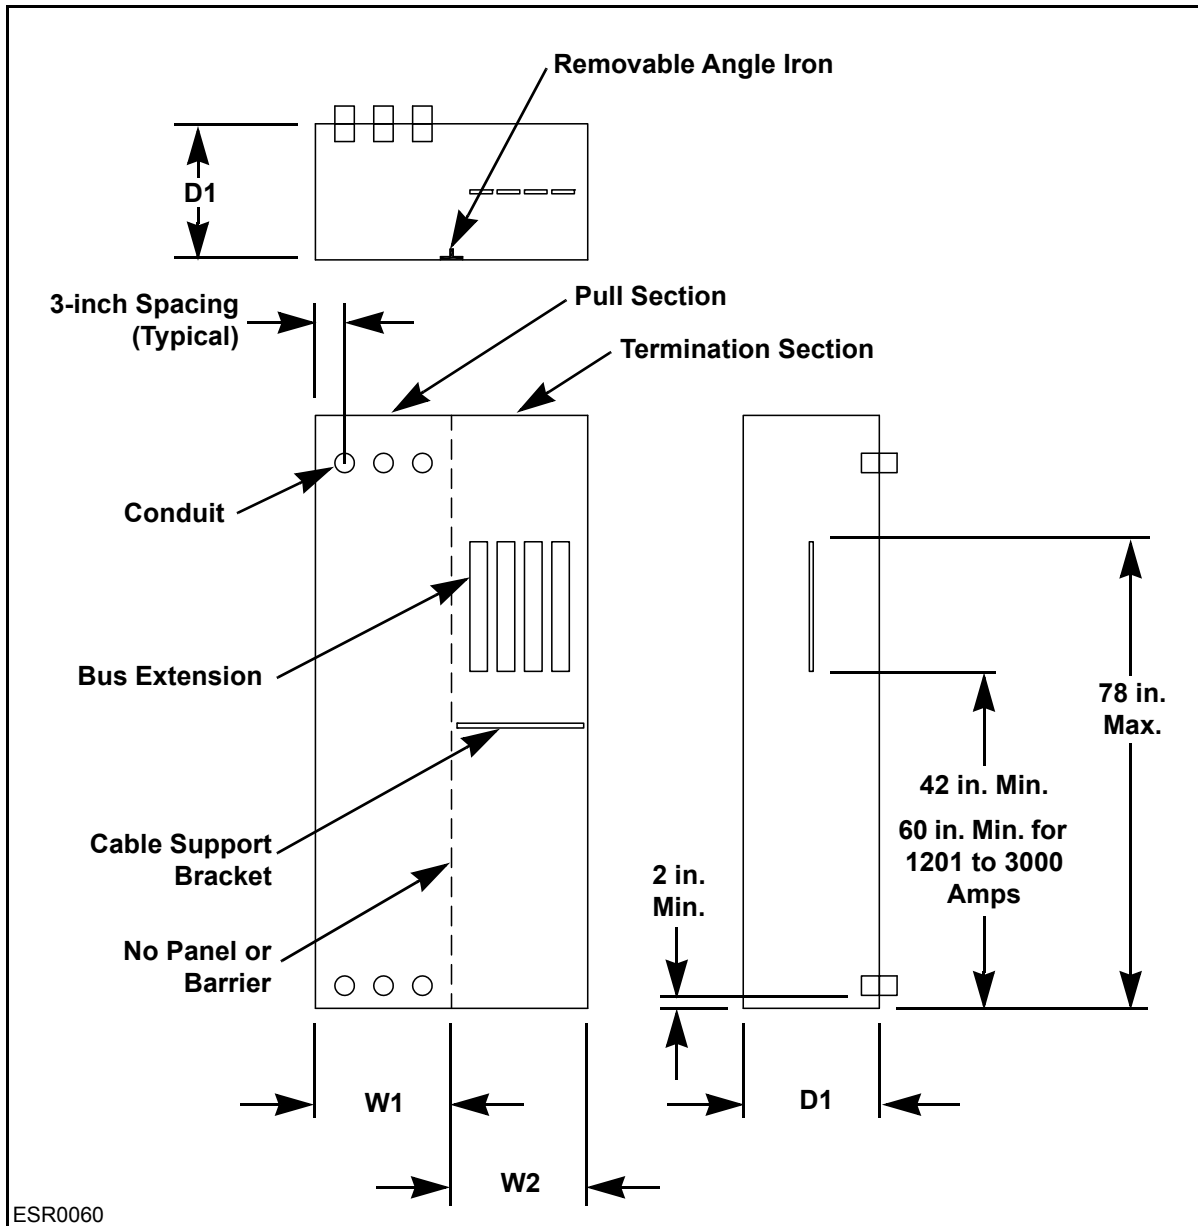
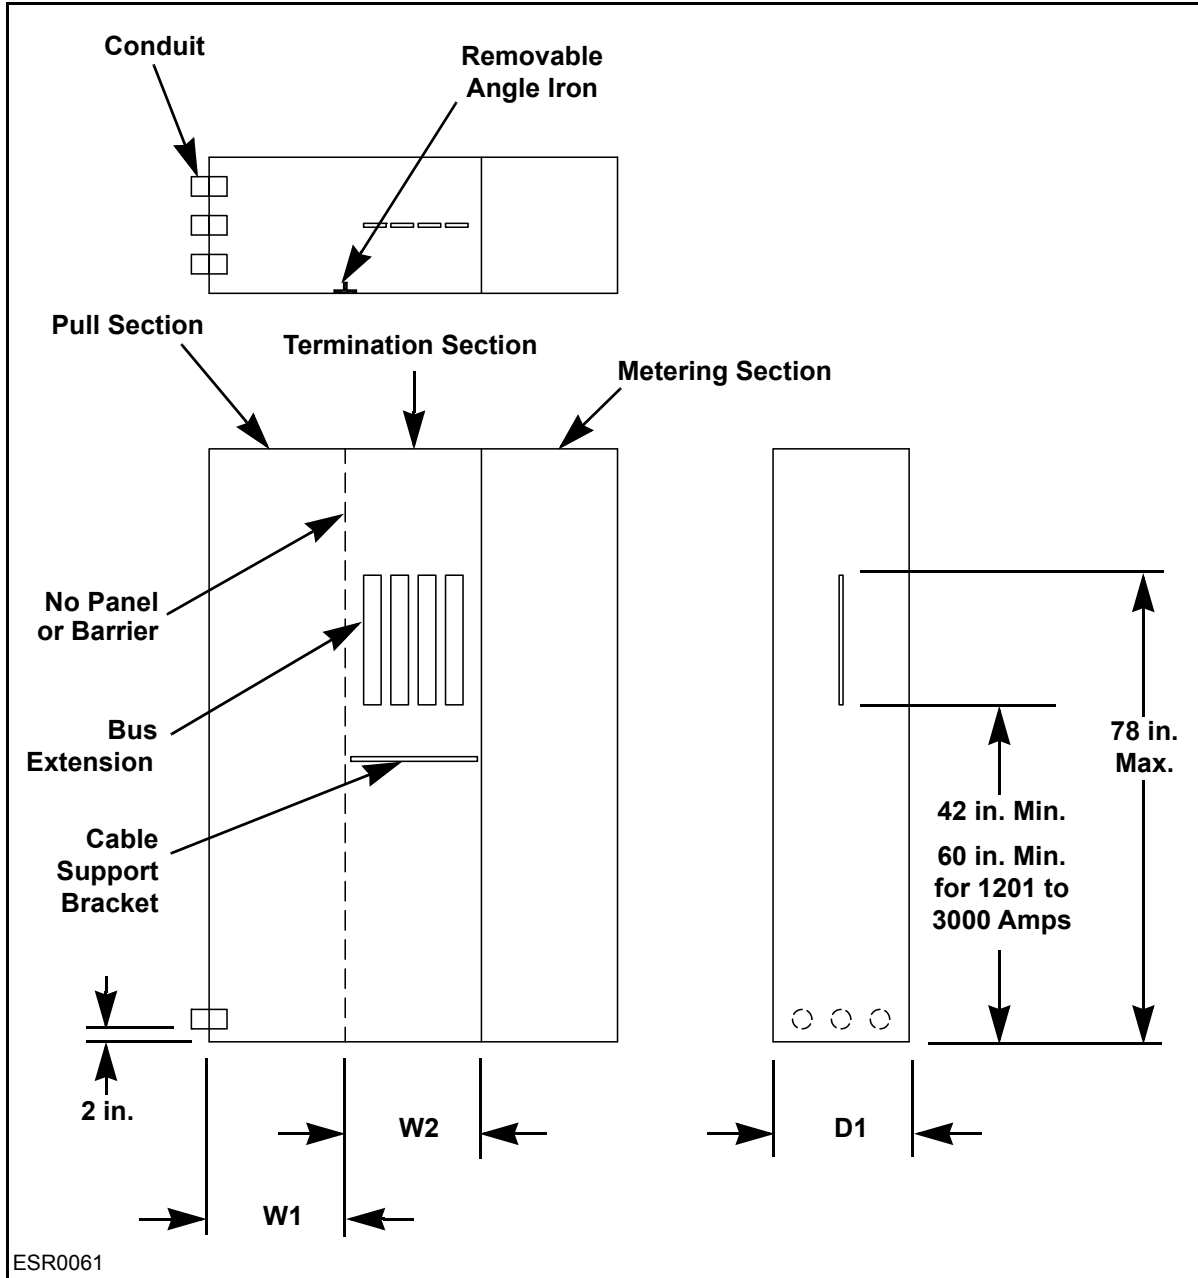

Figure 11-8: Underground Service Termination in a Pull Section Below the Ground Level, Showing Pull Section With Back-Entry Conduits at the Top or Bottom
Figure 11-9: Underground Service Termination in a Pull Section Below the Ground Level, Showing Pull Section With Side-Entry Conduits at the Bottom
**Figure 11-8** and **Figure 11-9** show underground service termination in a pull section below the ground level, 400 to 3000 amps, 0 to 600 volts based on EUSERC 345 note 6.
- **Figure 11-8** shows a pull section with back-entry conduits at the top or bottom.
- **Figure 11-9** shows a pull section with side-entry conduits at the lower end of the section.
- The pull section and termination section shown in **Figure 11-8** and **Figure 11-9** are reserved for PGE supply conductors. No conduits or Customer wiring shall be installed in, or routed through, this area.